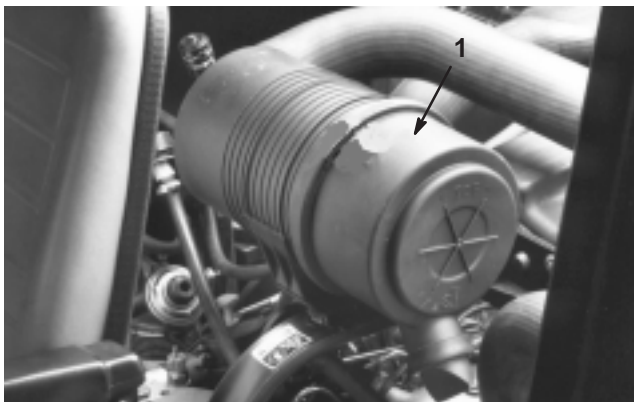

Figure 38
1. Release locking tab securing air cleaner cover to air cleaner body. Separate cover from body (Fig. 38). Clean inside of air cleaner cover.